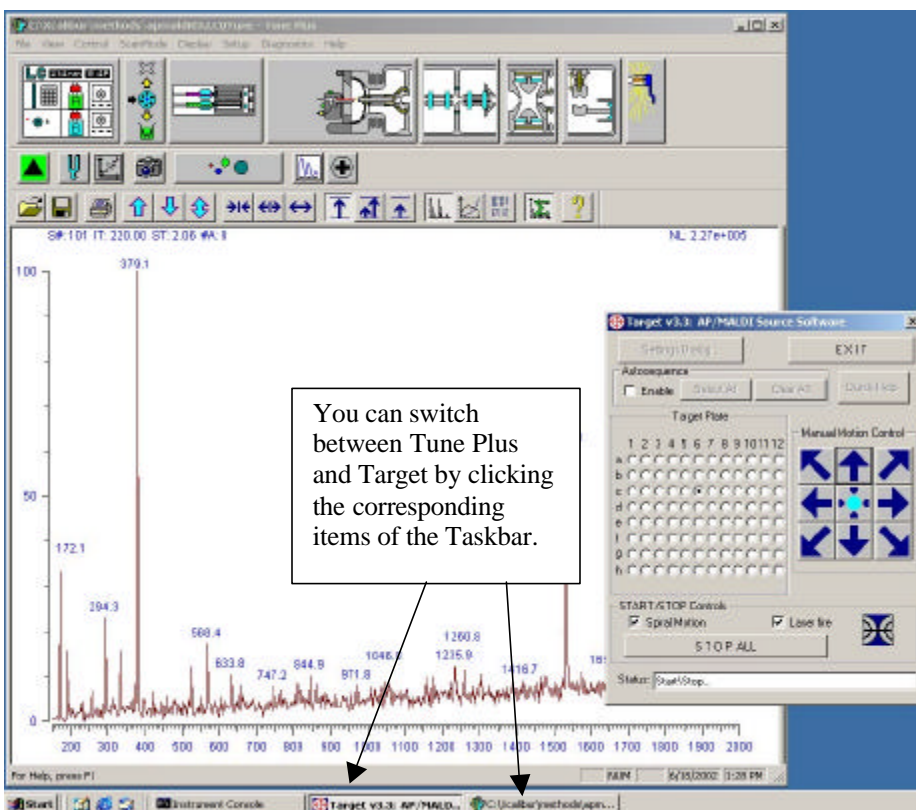

Fig. 33.
- Fig. 33 represents a screen copy made during an AP/MALDI spectrum measurement. (An older version of *TARGET* is shown in the Figure below). You can easily switch between the *Tune Plus* and *TARGET* programs to operate both LCQ and AP/MALDI source from the same computer. Or alternatively, separate computers can be used to run *TARGET* software and operate AP/MALDI.